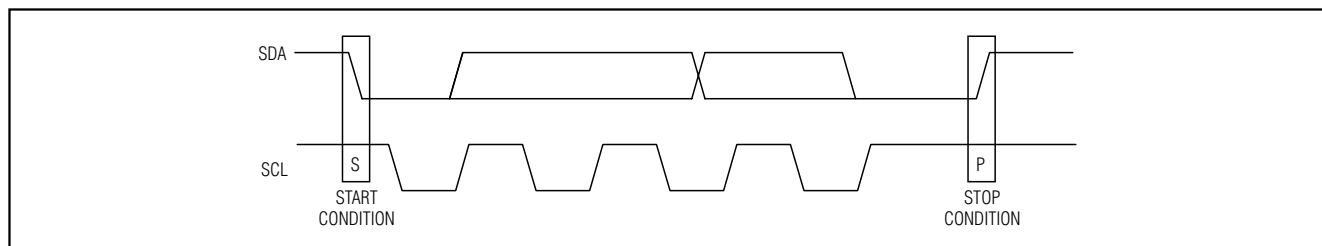

Figure 3. Start and Stop Conditions
Each transmission consists of a start condition sent by a master, followed by the MAX7310 7-bit slave address plus an R/W bit, a register address byte, one or more data bytes, and finally a stop condition (Figure 3).
Both SCL and SDA remain high when the interface is not busy. A master signals the beginning of a transmission with a start (S) condition by transitioning SDA from high to low while SCL is high. When the master has finished communicating with the slave, it issues a stop (P) condition by transitioning SDA from low to high while SCL is high. The bus is then free for another transmission (Figure 3).